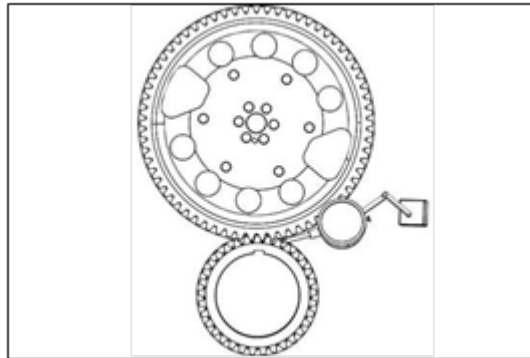

Figure 98.
1. Install a dial indicator as shown in Figure 98.